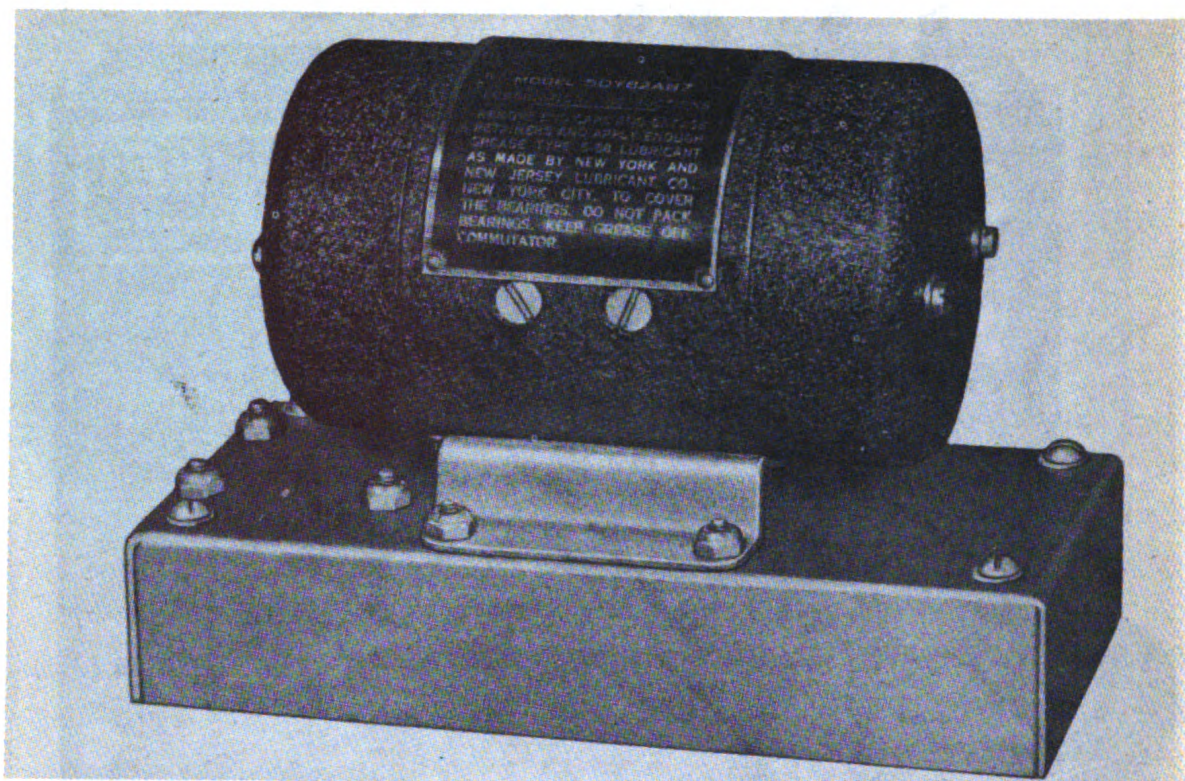
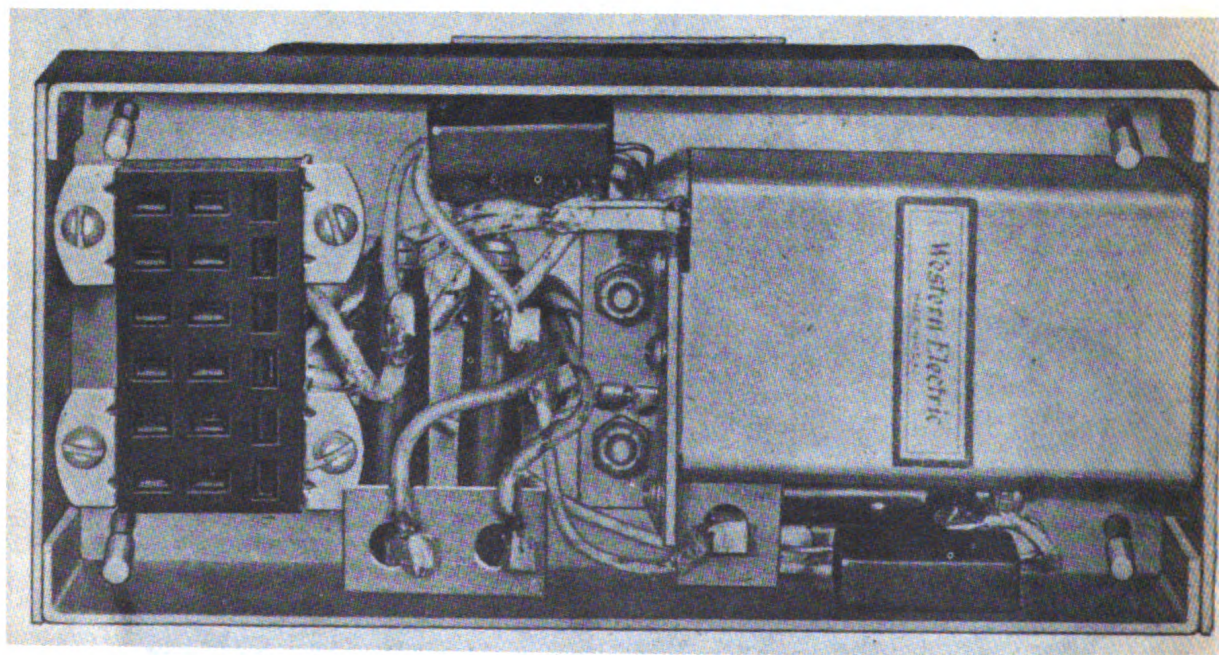

Fig. 21a. Dynamotor DM-34-(*) or Dynamotor DM-36-(*)
Fig. 21b. Dynamotor DM-34-(*) or Dynamotor DM-35-(*): Sub-base View
a. Dynamotors DM-34-() and DM-36-(*).* Each of these dynamotors provides about 200 volts for operation of the receiver. The dynamotors are of similar appearance; and two views are shown in Fig. 21a and Fig. 21b. The dynamotors are totally enclosed. Their armatures are dynamically balanced and are supported by two single-race ball bearings. Both dynamotors are shunt wound. The primary and secondary windings are wound in the same armature slots, but the two windings are brought out to separate commutators mounted on opposite ends of the armature shaft.